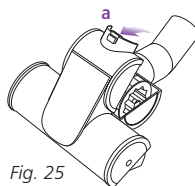

Fig. 25
- 1** Slide the locking latch (**a**) forward and gently tilt brush housing upward to open. (**Fig. 25**)